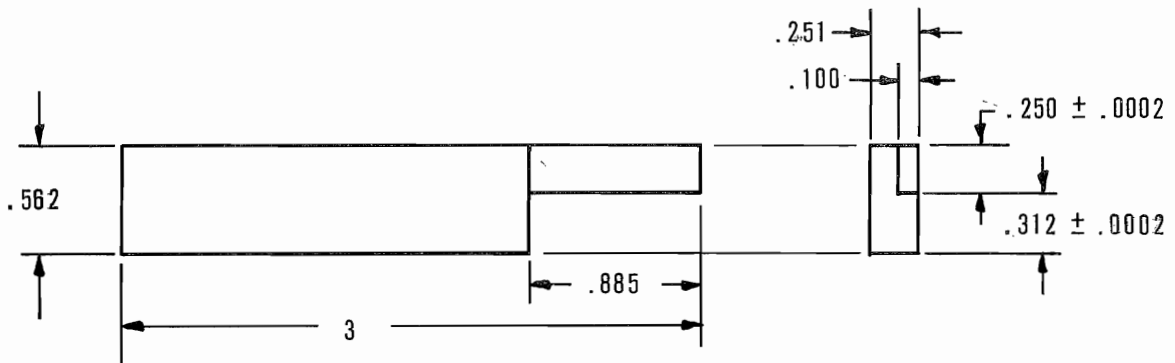

FIG. 5-9
- 2) Adjust screw A for $9/16''$ height of the top of the upper track above the deck surface. Gates gauge (Figure 5-9) can be used to make this setting. It can also be used to check the guide post height of cartridges.